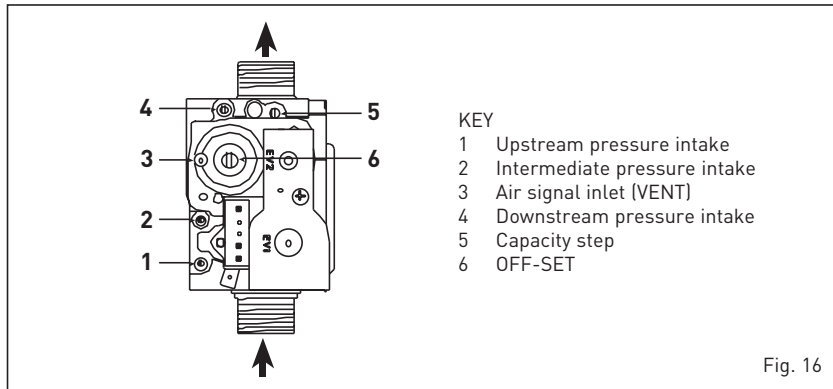

Fig. 16
### 4.2 GAS VALVE (fig. 16)
The boiler is supplied as standard with a gas valve, model SIT 848 SIGMA (Fig. 16).
- 3) Identify the CO2 values at max. power by adjusting the shutter (5 in Fig. 16):
- 5) Identify the CO2 values at min. power by adjusting the OFF-SET regulation screw (6 in Fig. 16):